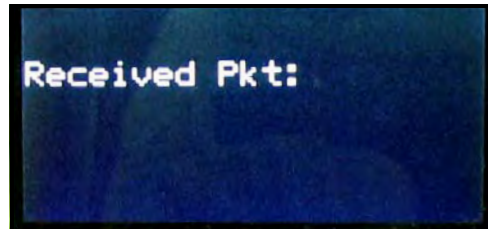

Figure 221: Sentinel LNG Screen
3. From the **Sentinel LNG** FACTORY menu, scroll to the Upgrade option and press [ENT] twice. The **Sentinel LNG** screen should appear as in Figure 221 after approximately one minute, or
Power on the **Sentinel LNG**, and enter ESC-R from the PC keyboard. The **Sentinel LNG** screen should appear as in Figure 221.